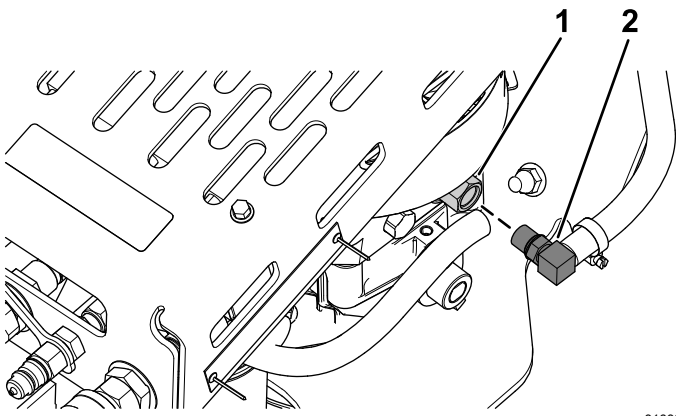

Figure 5
5. Remove the elbow fitting from the fitting on the hydraulic pump (Figure 5).